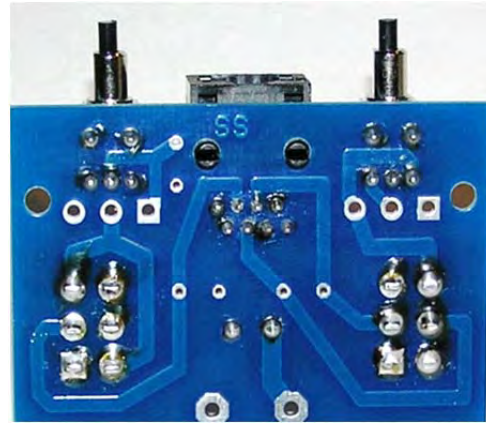
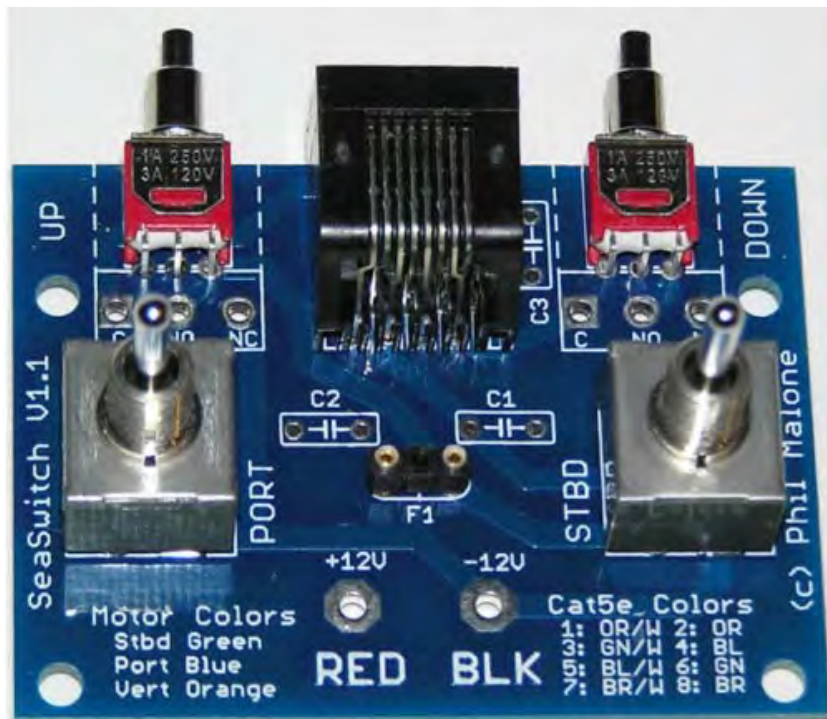

Figure 3.3-6: Bottom of a PCB after Soldering All Components
Figure 3.3-7: A Completed PCB
14. Re-examine all of the solder connections on the PCB as a final check for solder bridges or connections that don't seem to have enough solder. Re-solder them if needed. The soldered side of the completed PCB should look similar to the one shown in Figure 3.3-6. The completed PCB should look like Figure 3.3-7.